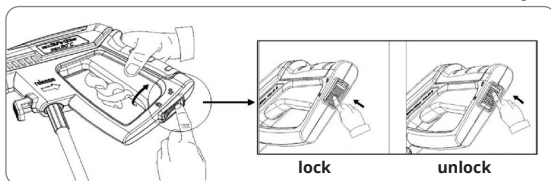

Fig. 15
1. Insert the adjustable nozzle into the spray gun and push it forward into low pressure mode (fig. 15).